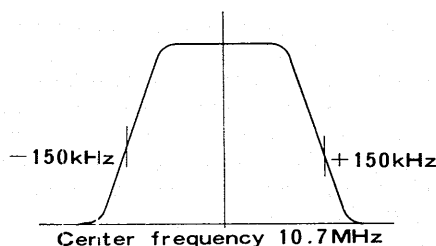

Fig. 3
- e) Adjust the IFT cores (T9, T10, T11) as shown in Fig. 3, for maximum gain and symmetrical pattern.